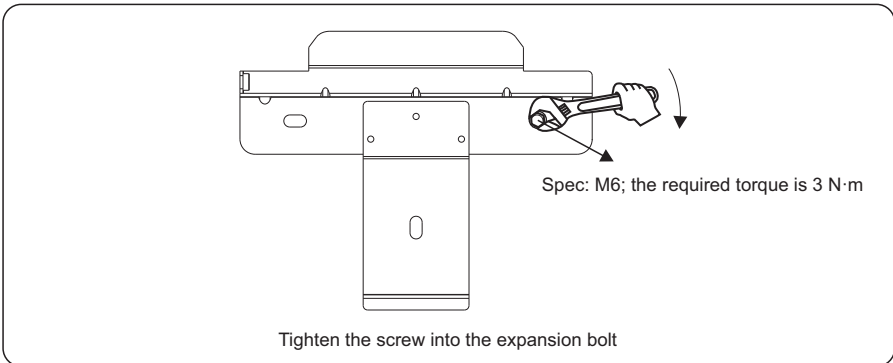

Figure 4.13 Securing a rear panel
**Step 5** Align the rear panel with the holes, insert expansion bolts into the holes through the rear panel, and tighten the expansion bolts to a torque of 3 N·m using a torque wrench, as shown in Figure 4.13.